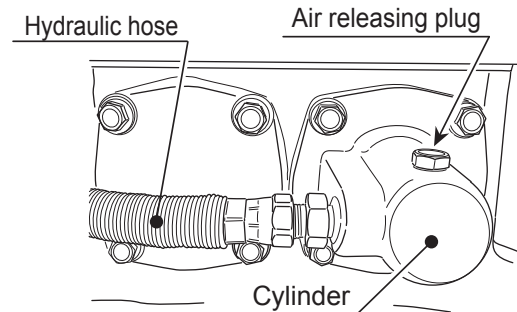

Fig.39
- 2 After the oil is drained, attach the hydraulic hose again to the cylinder on the vibrator side.(Fig.39)